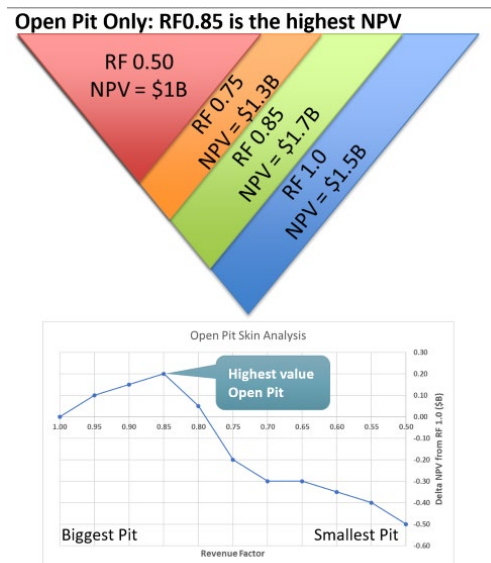
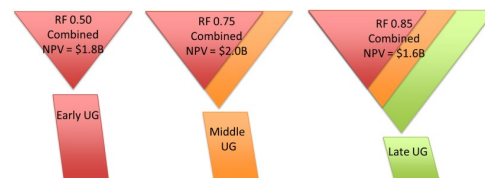

Figure 1 Standalone Open Pit Value
Figure 2 Integrated OP/UG Value
In Figure 1, the optimal pit shell based on discounted value is at Revenue Factor (RF) 0.85. However, the optimal enterprise value (Figure 2) is based on a smaller pit (RF 0.75) and an earlier underground.
Solving for the 'optimal enterprise value' seen in Figure 2 is a multi-dimensional challenge. It requires a system-wide